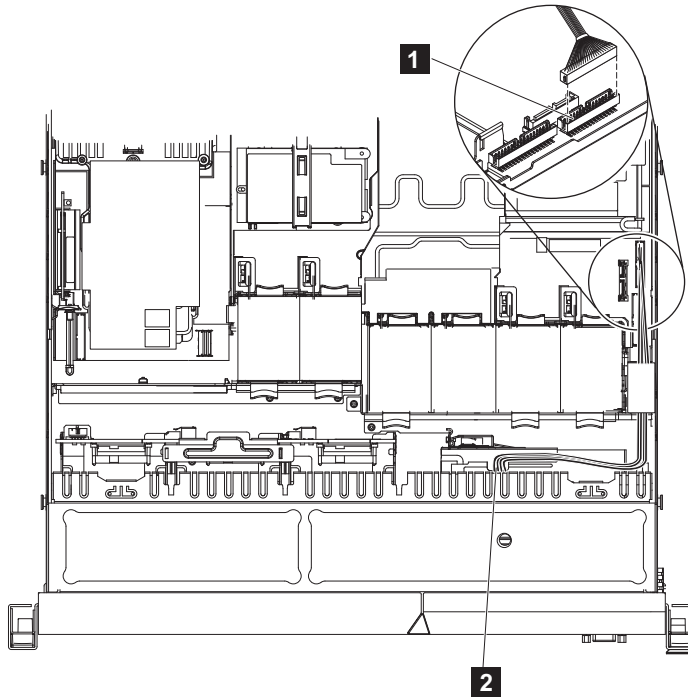

Figure 271. Connecting the 2145-CG8 or 2145-CF8 operator-information panel cable
2. Thread the new cable from the operator-information panel to the connector above the Video/USB cable connector on the right side of the node, as shown in Figure 271.
3. Connect the cable to the connector above the Video/USB cable connector on the right side of the node, as shown in Figure 271.